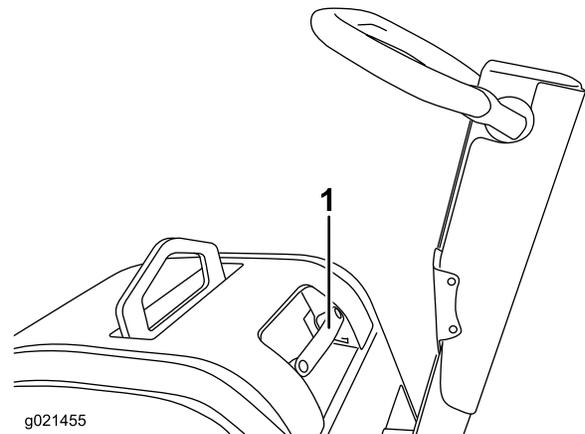

Figure 8
3. **Models 68072 and 68073 only:** raise the cover (Figure 8).
2. **Models 68072 and 68073 only:** raise the cover (Figure 8).